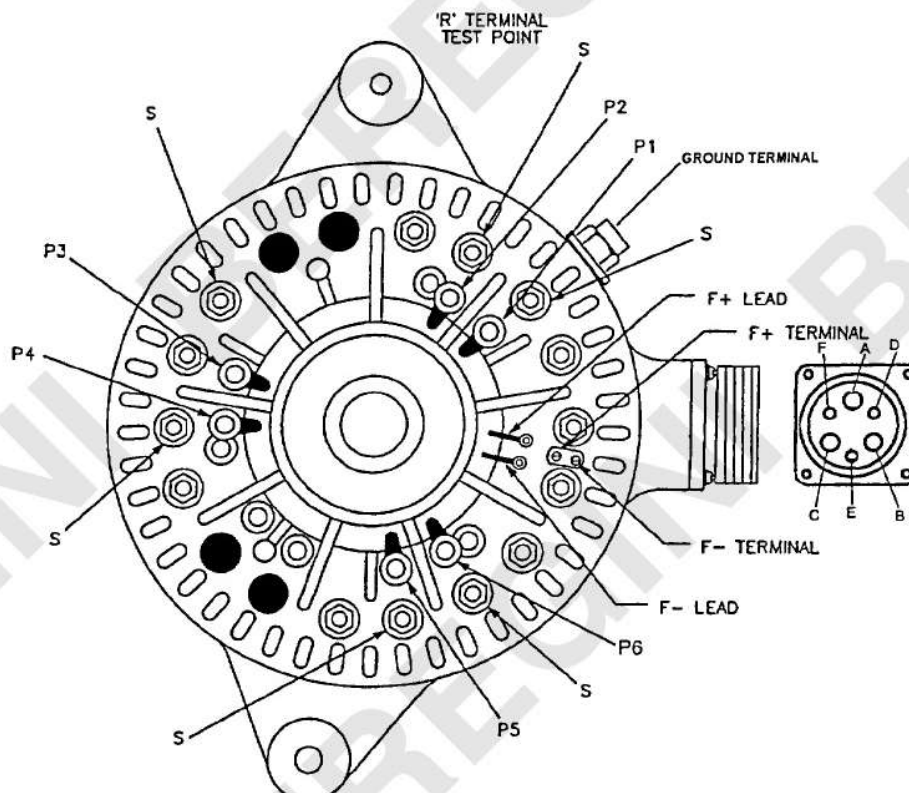

Figure 2-16. Stator Winding Points
(6) Stator Tests - Remove all phase leads (P1-P6) from front housing (fig 2-16).
(a) Open stator winding - Set ohmmeter for X10 scale and make sure ohmmeter is zeroed. Connect multimeter leads to each successive pair of phase stator windings (fig. 2-16). Ohms should read less than 1 ohm between each pair of stator phase windings. If ohms reads very high, the stator is open and must be replaced. Replace or repair stator and shell assembly, in accordance with paragraph 3-4b, steps 1 thru 12.
(b) Shorted stator winding - Set ohmmeter for X1 scale and make sure ohmmeter is zeroed. Connect multimeter leads to each phase lead and ground terminal located on outside of front housing (fig. 2-16). Ohms should read very high. If ohms read zero, the stator is grounded and must be replaced. Replace or repair stator and shell assembly, in accordance with paragraph 3-4b steps 1 thru 12.